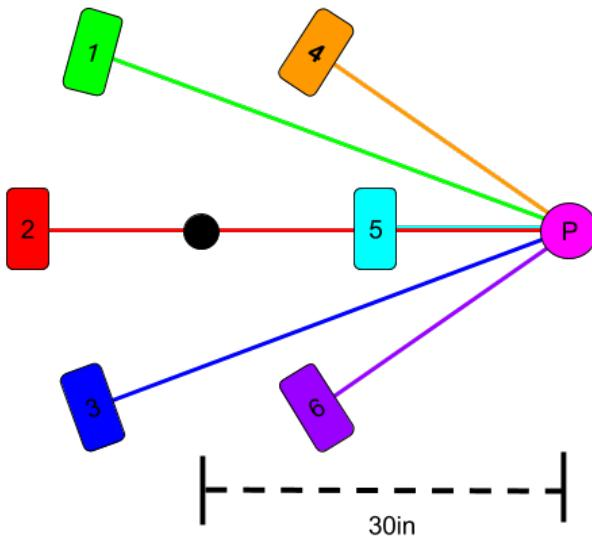

Figure 7: 30 Inch Turning radius
For this example, we will have a controller signal of max speed (100), and a turning radius of 30 inches (by convention the positive turning radius is turning to the right and negative is turning to the left), as shown in Figure 7: